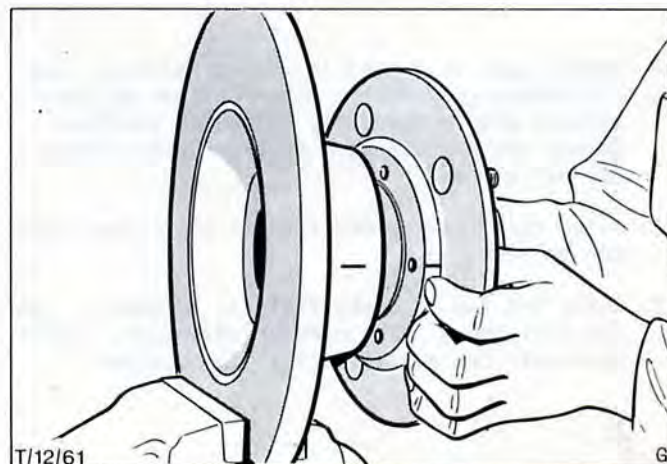

Fig.26. Front disc and hub aligning marks.
5. Ensure both contact faces on hub and disc are clean and free from any preservative, grease or burrs, Fig.26.